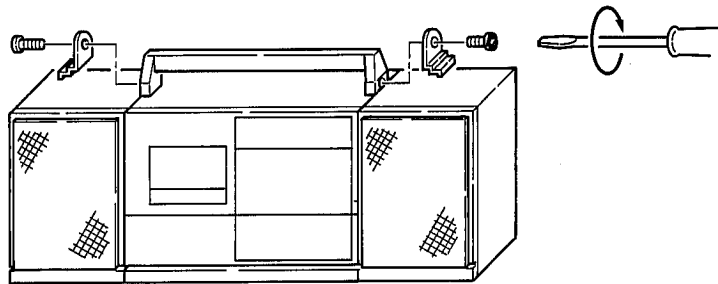

Fig. 3/ 第3圖
2. Fix both speakers by using the supplied mounting brackets and screws as shown in Fig. 3.